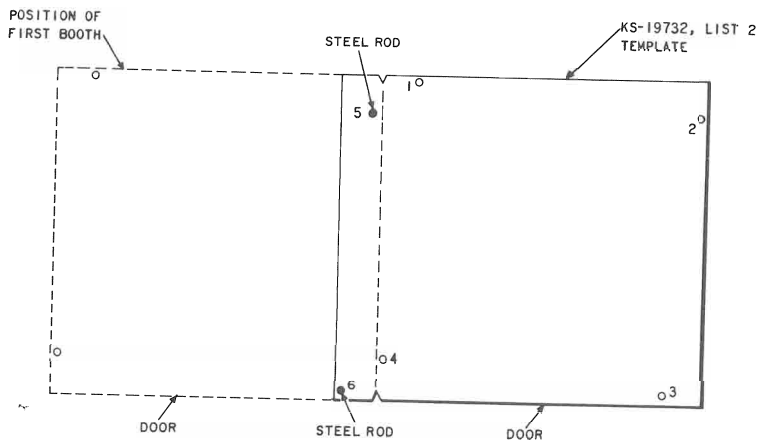

Fig. 12—Left to Right Layout for Drilling Mounting Holes
- 3.17** Use a chalk line and mark the floor where the front edge of the lineup will be (Fig. 12).
- (3) Move template to the right and align template holes 5 and 6 with previously drilled holes 3 and 4, respectively (Fig. 12). Insert the two steel rods in these holes.
- (4) Drill 1/4-inch holes at positions 1, 2, 3, and 4 to a depth of approximately 1-1/4 inches.
- (5) If a third booth is to be installed, move template to the right and align template holes 5 and 6 with previously drilled holes 2 and 3, respectively (Fig. 12). Insert the two steel rods in these holes.
- (6) Repeat step (4).
- (7) If additional booth positions are required, repeat steps (5) and (4) respectively.